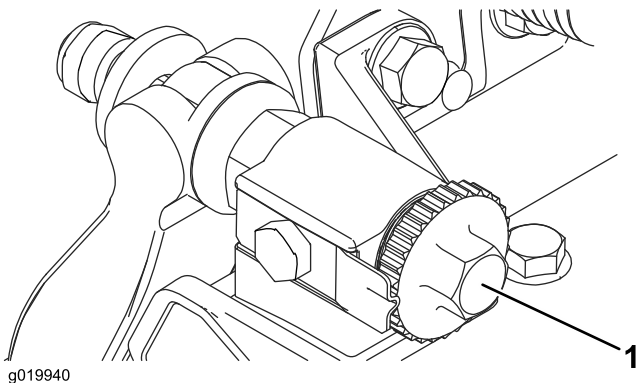

Figure 8
2. Turn the bedbar adjusting screws counterclockwise to ensure that the bedbar does not contact the reel (**Figure 8**).